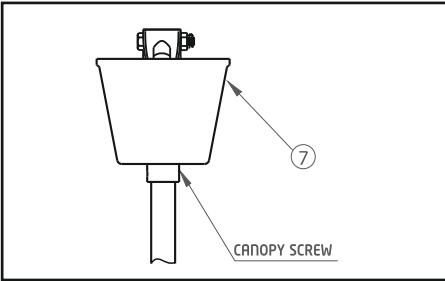
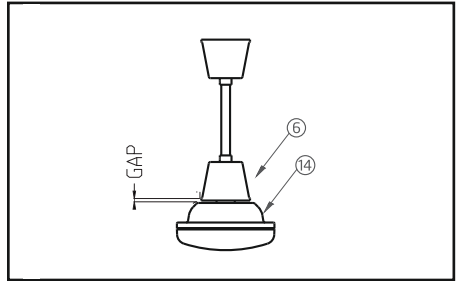

Figure 10
Figure 11
Adjust the top canopy (7) with ceiling and tighten it with screw provided in canopy. See Figure 10. Adjust the bottom canopy (6) and fix it with screws provided. Maintain appropriate gap from top cover (14). See Figure 11.